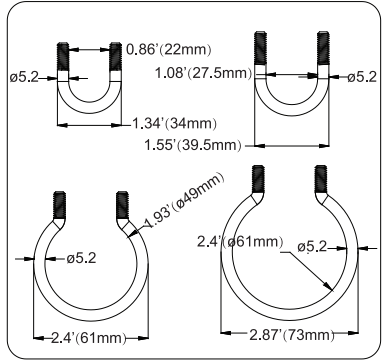

Figure 9
- 1.Can be equipped with 4 sizes of round tube light poles,the sizes are as following : ø21mm , ø27mm ø48mm , ø60mm(Figure 9).
- 2.Select the appropriate bolts (Figure 9), assemble the bolts to the fixture, and install the nuts (Figure 10).